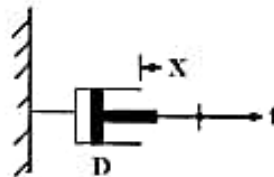

Fig.4.5. Force applied on a damper with displacement in one direction
- (c) **Damper:** A damper is denoted by  $D$ . If a force  $f$  is applied on it and it displays distance  $x$ , then  $f = D \frac{dx}{dt}$  as shown in Fig.4.5.